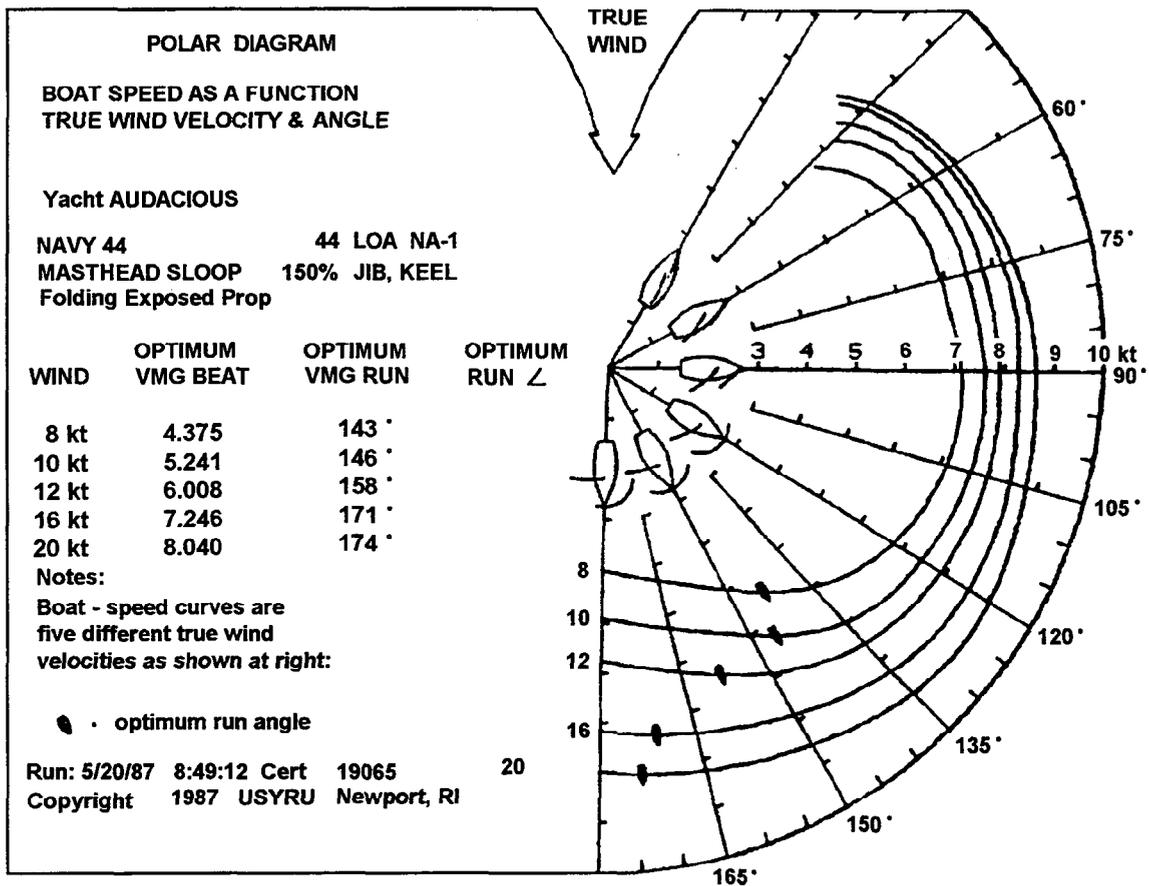

Figure 3-4. Polar Diagram - True Wind
- The NAVY 44 is a masthead rig. Reef the main first to keep as large a headsail as possible, then change down to a smaller jib. A boat performance model has been prepared for the NAVY 44 by the United States Sailing Association. This provides target speeds that should be attained if conditions are optimum and crew performance is flawless. See Table 3-2, Optimum Targets; Table 3-3, Speed as a Function of Sail Performance; Figure 3-4, Polar Diagram, True Wind, and Figure 3 -5, Polar Diagram, Apparent Wind.